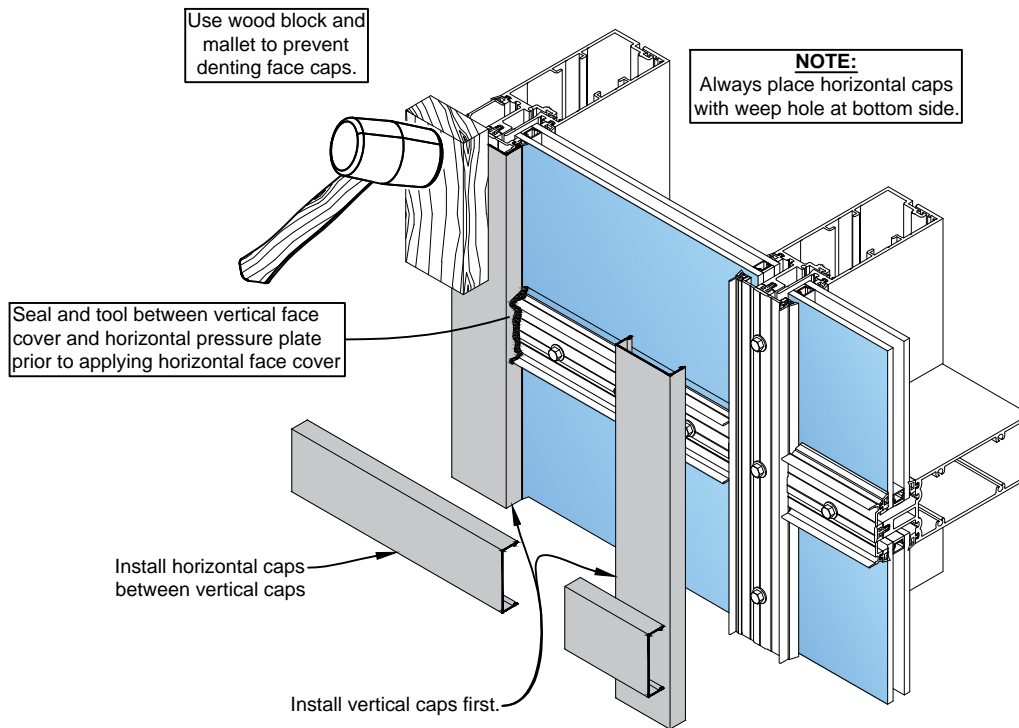

Fig. 59.1
- L. Seal the horizontal pressure plates to the vertical face covers, tooling the sealant into the joint. See Fig. 59.1 and 59.2.
- M. Install the horizontal face covers leaving equal gaps on each end. Make sure the weep holes are pointing down. See Fig. 59.1.